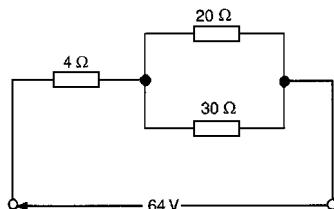

Figure 5.31
- 7 (a) Calculate the current flowing in the 30Ω resistor shown in Fig. 5.31 (b) What additional value of resistance would have to be placed in parallel with the 20Ω and 30Ω resistors to change the supply current to $8A$, the supply voltage remaining constant.